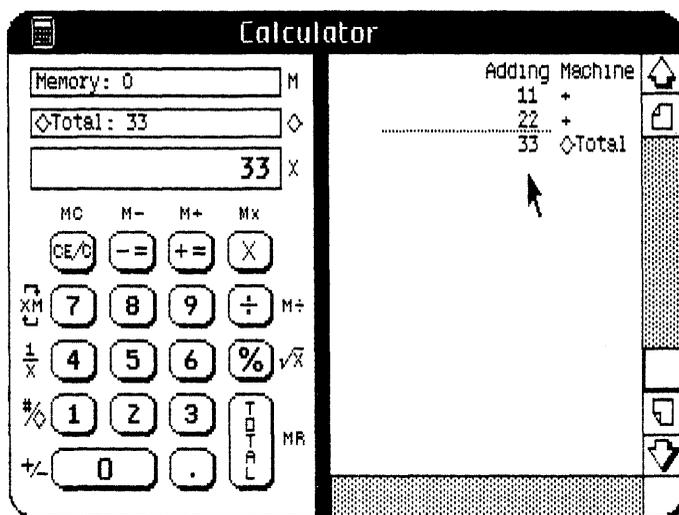

Figure 7. Adding Machine — Example 1
- ▶ Click $\#/\emptyset$; see Figure 7 now.
In Figure 7, the subtotal 33 has been stored in the calculation register (labeled \diamond), displayed in the X register, and shown on the transaction tape. The dotted underscore indicates that a subtotal was taken; the actual value of the subtotal is labeled \diamond Total.